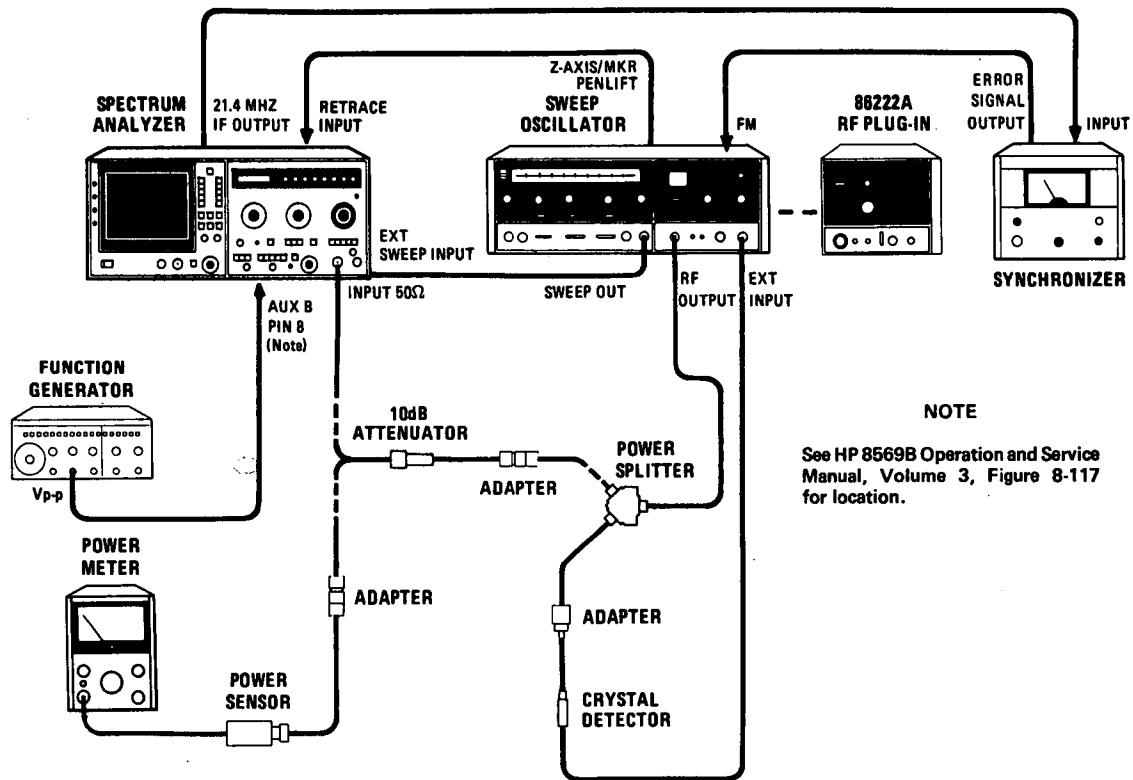

Figure 5-52. Frequency Response Adjustment Test Setup
2. Reconnect power cord, set LINE switch ON, and connect equipment as shown in Figure 5-52. Set all normal (green) spectrum analyzer settings, except as indicated, and other controls as follows: